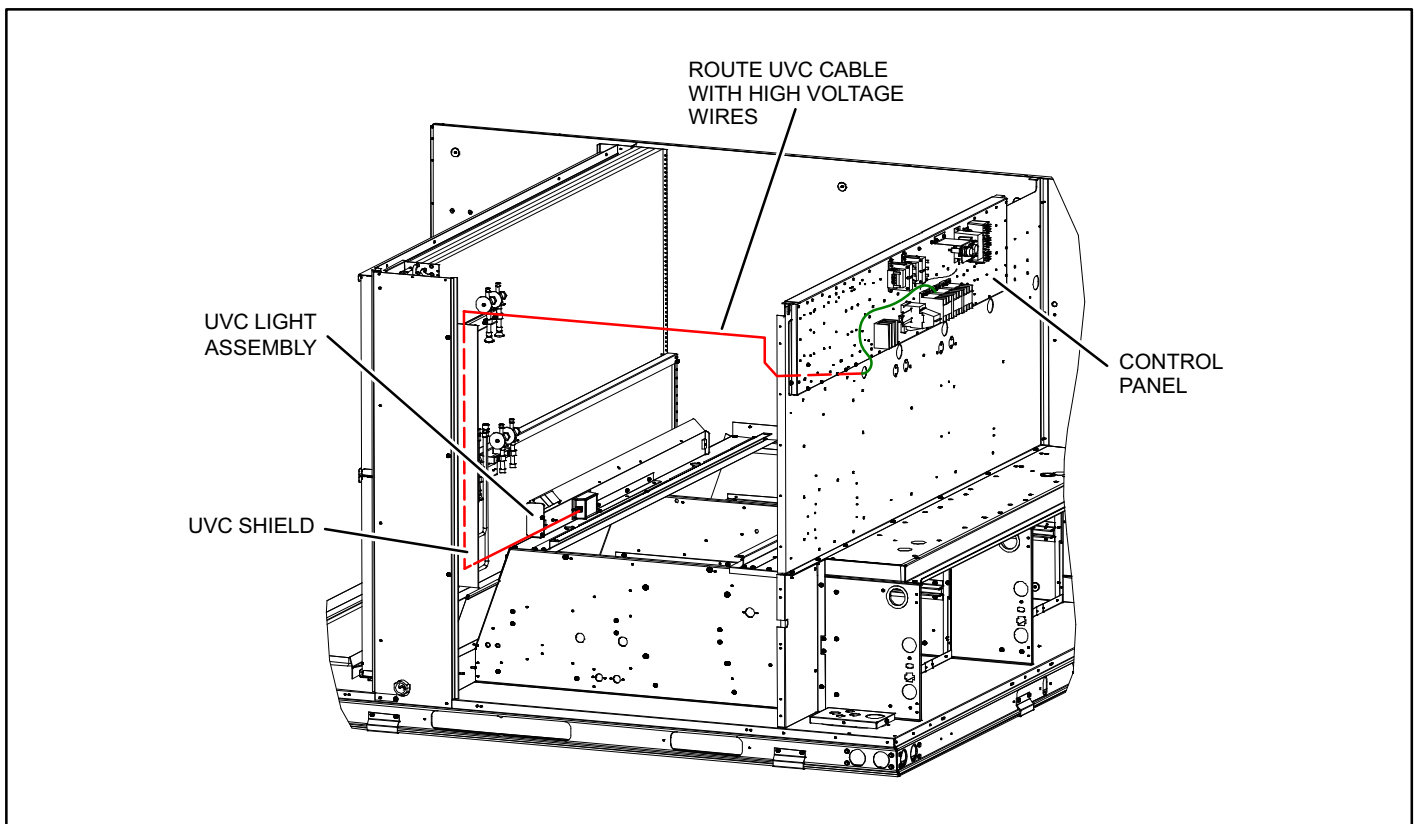

Figure 4. UVC Wire Routing
2. Route the UVC cable along the path shown (see figure 4) into the controls section. Wire tie the cable at multiple locations along the existing wire harness.